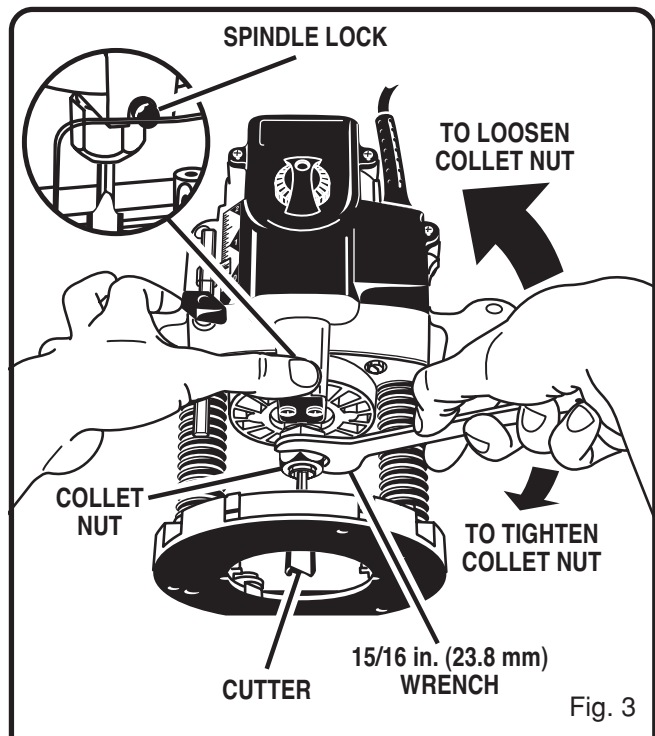

Fig. 3
See Figures 3 and 4.
- Depress spindle lock. See Figure 3.
- Lay router down on workbench in order to gain easy access to collet nut. See Figure 3.
- Place the wrench provided through front of router base onto collet nut and turn counterclockwise to loosen. See Figure 3.